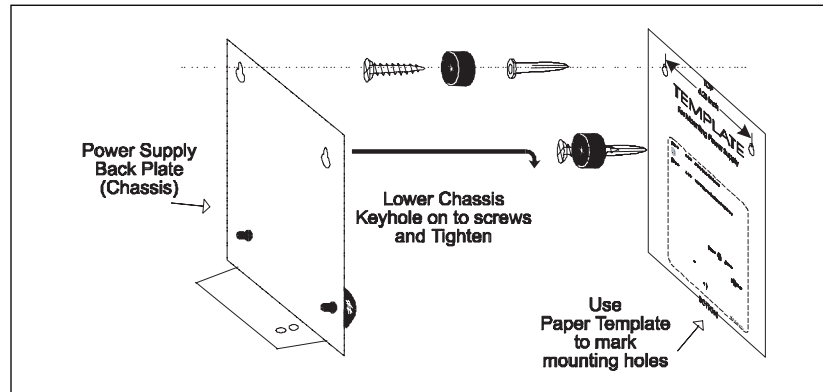

Figure 3. Mounting the Power Supply
2. Use hardware provided and mount the power supply at eye level. Leave sufficient clearance on all sides of the backplate (chassis). If possible leave a minimum of 9½ inch (241 mm) on the left side. Mark screw centers and drill two ¼ inch (6.35 mm) holes spaced 6¼ inches (159 mm) on center. Install the anchors, rubber weather seal, and screws provided. See page 8 figure 3.
3. The power supply front cover is held to the metal back plate (chassis) by four retaining screws. Unscrew the four screws and remove the front cover. Position the back plate (chassis) keyhole slots over the two mounting screws just installed. Tighten the screws until snug. See page 8 figure 3.